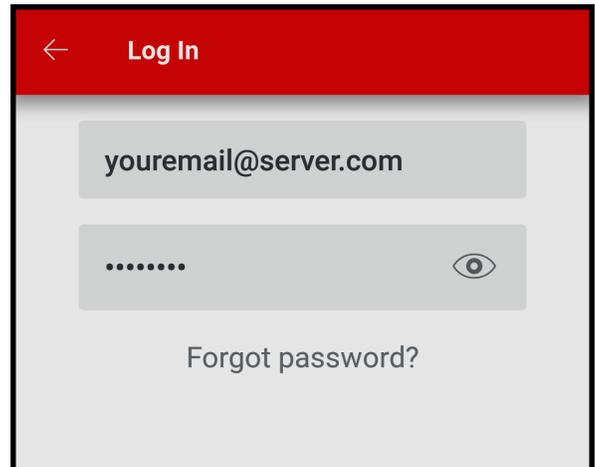

Figure 7. Log in the Raymote Mobile App
3. Open the Raymote mobile app and log in with your user name and password. See Figure 7.